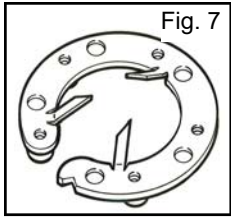

Fig. 7
- Hold the backing plate with the threaded nuts facing downward. Bend tabs up at about a 45° angle, as in Fig. 7.